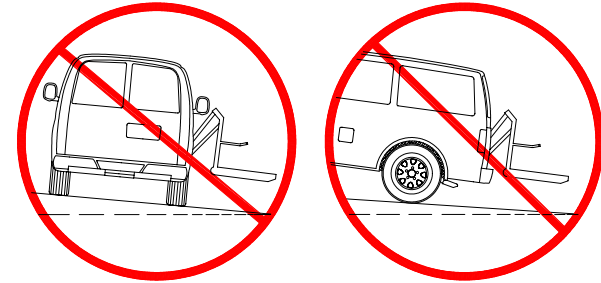

FIGURE 2-1: SLOPED PARKING HAZARD
- Refer to **Figure 2-1**. Deploying lift when vehicle is on sloped ground is hazardous. Operate lift with vehicle parked on level ground.